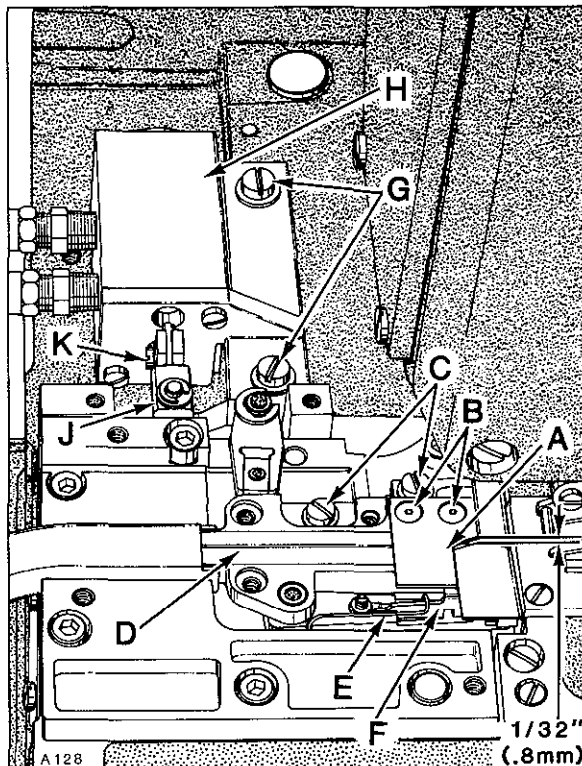

Fig. 25
Upper knife (A, Fig. 25) can be replaced by removing two screws (B). To replace lower knife, the upper knife must be removed and rear suction tube cover. Loosen two screws (C) and slide housing (D) towards the rear. Remove screw (A, Fig. 26) and lift up thread inlet (B). Unhook knife spring (E, Fig. 25) and remove lower knife (F). Reassemble knives in reverse manner. Reassemble thread inlet (B, Fig. 26) and slide housing (D, Fig. 25) forward against rear of throat plate; tighten two screws (C).
**IMPORTANT:** Be sure that lower knife does NOT strike against knife housing or feed chamber cover. Adjustment should be accomplished by loosening two screws (G, Fig. 25) and reposition air motor (H) left or right slightly, but under extreme circumstances it may become necessary to shorten the stroke of lower knife travel by repositioning coupling (J).
Carefully press against lower knife (F, Fig. 25) until air motor stalls. With treadle still depressed, check the knife cross over. Cross over of lower knife to upper knife is positioned correctly when the lower knife is 1/32 inch (.8mm) from the front of upper knife as shown in Figure 25. If adjustment is required, loosen screw (K) and reposition coupling (J) as required to obtain specified dimension.
Shear angle should be .003 inch (.076mm), measured at rear cutting edge of lower knife (F, Fig. 25) and cutting edge of upper knife (A). Adjustment can be made by loosening nut (A, Fig. 27) and turning screw (B) clockwise to increase the angle or counterclockwise to decrease. Lock nut (A) after shear angle is set.